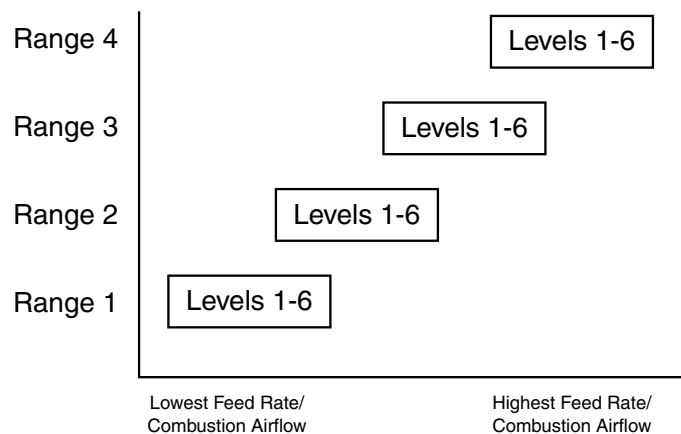

Figure 3: Feed Rate Chart
- There are many varieties of corn. Each variety has unique characteristics including the shape and size of the kernel. As corn characteristics change, the fuel range may have to change accordingly. See figure 3.